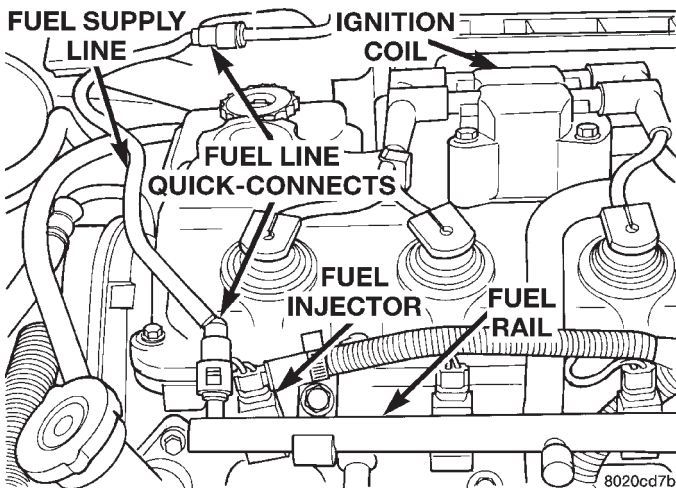

Fig. 27 Fuel Rail and Injectors
- (3) Disconnect fuel supply tube from rail. Refer to Quick-Connect Fittings in this section.
- (4) Disconnect electrical connectors from fuel injectors (Fig. 27).
- (5) Remove fuel rail mounting screws.
- (6) Lift rail off of intake manifold. Cover the fuel injector openings in the intake manifold.